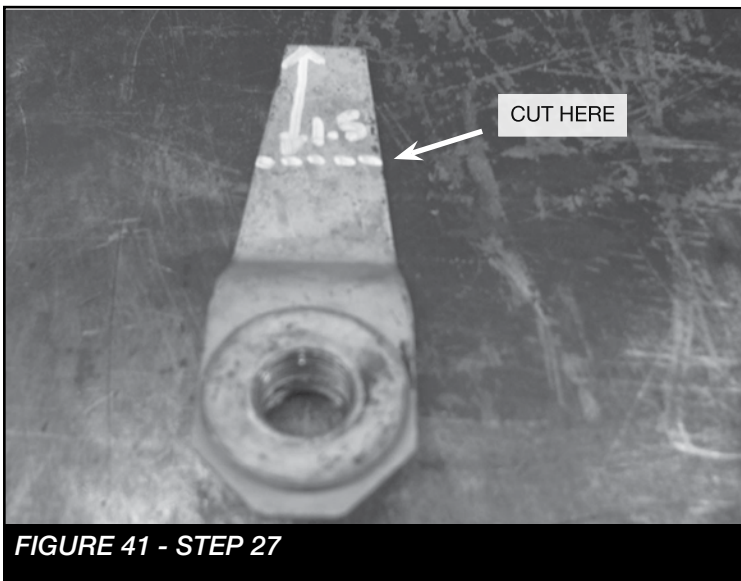

FIGURE 41 - STEP 27
27. Before installing the track bar to the axle. The factory nut tab will need to be cut. Trim 1-1/2" off the end and reinstall. **SEE FIGURE 41**